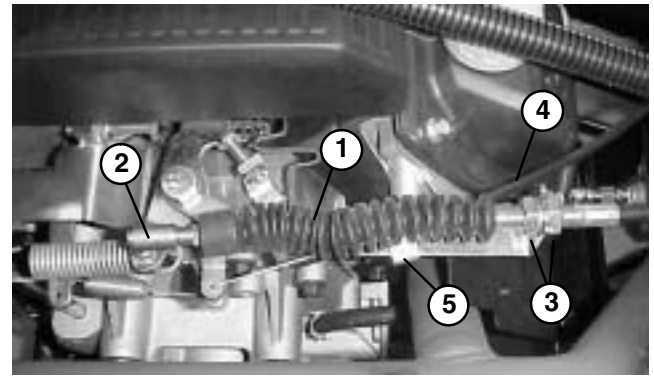

Figure 8
4. Remove accelerator cable from engine (Fig. 8 and 9).
5. Remove choke cable from the engine speed control bracket (Fig. 8 and 9).